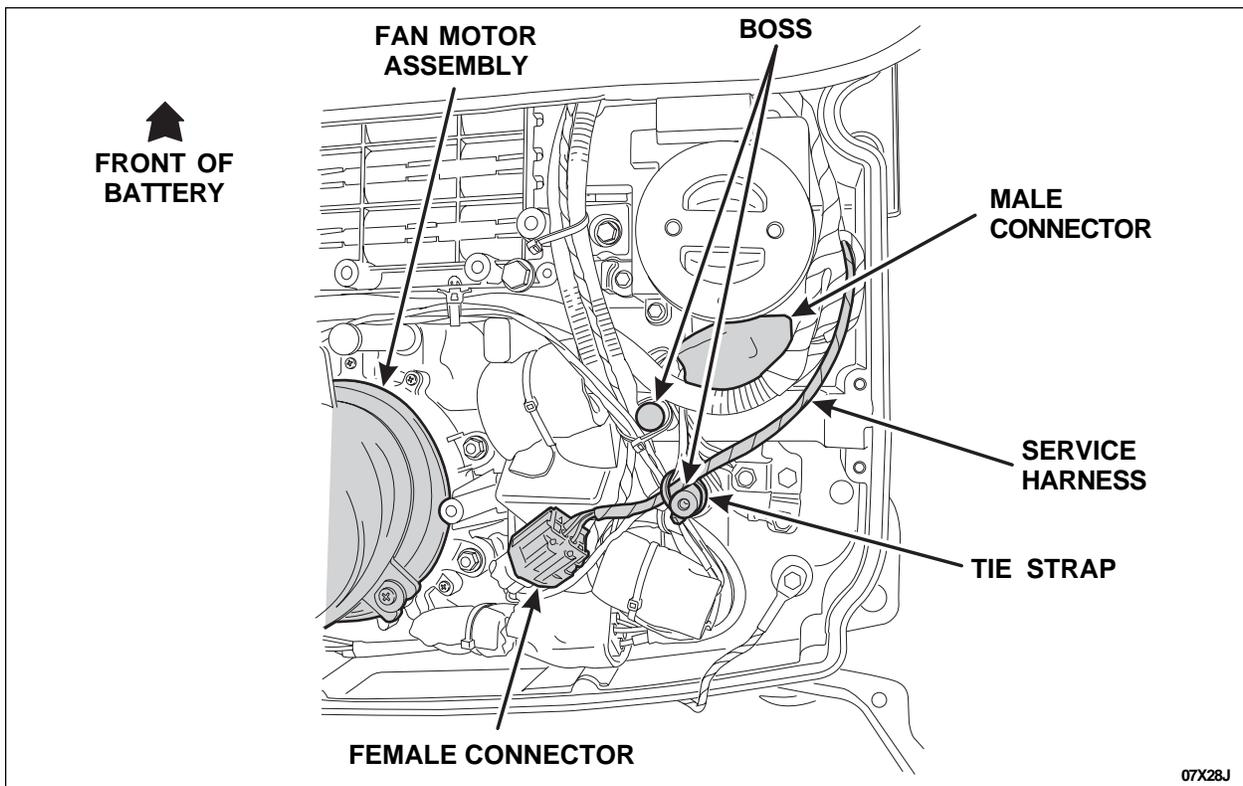

FIGURE 10
13. Run the service harness between the 2 bosses and guide the original female connector to the cavity next to the fan motor assembly. Attach the service harness to the boss using the provided tie strap and cut and remove the unused part of the strap. See Figure 10.